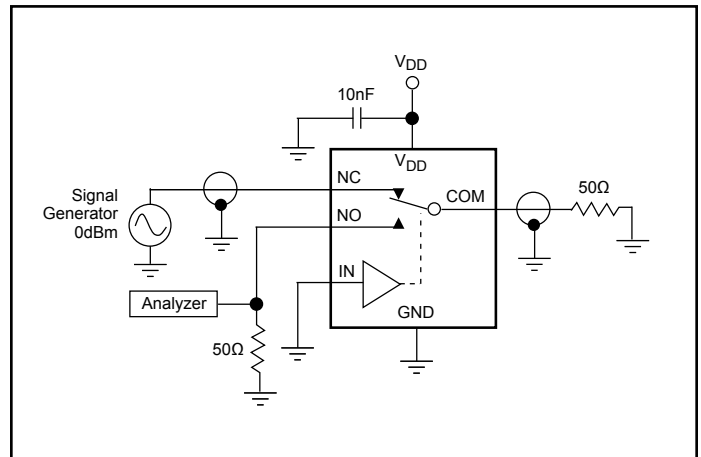

Figure 4. Crosstalk
5. Between any two switches. See Figure 4.